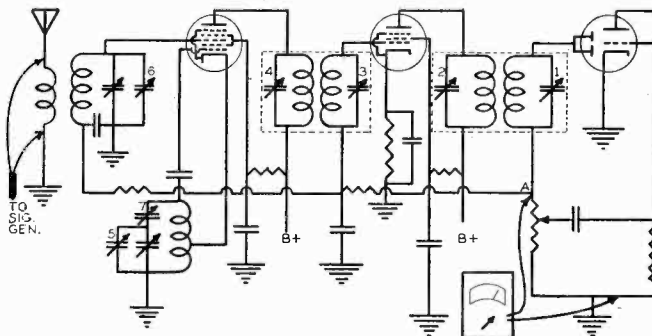

Fig. 7. Basic r.f. and i.f. sections of a superheterodyne.
The basic circuit for a superheterodyne receiver is given in Fig. 7. Let us give the basic alignment procedure, step-by-step, which would be used on this set.
3. Connect the output indicator to the receiver. We will assume, in this discussion, that we are using a volt-ohm-mil-ammeter as a d.c. voltmeter to indicate a.v.c. voltage and that it is connected between point A and ground in Fig. 7.
8. Adjust the trimmers of the i.f. transformers for maximum reading on the output indicator. These are adjustments 1, 2, 3 and 4 in Fig. 7. Repeat the adjustments to correct for any interaction between trimmers.
11. Set the signal generator to the same frequency. Then adjust the oscillator trimmer, adjustment 5 in Fig. 7, (usually on the oscillator section of the tuning gang) for maximum output indication on the meter.
12. Tune the receiver and signal generator to a frequency of about 1400 kc., and adjust the pre-selector trimmer (or trimmers), adjustment 6 in Fig. 7, for maximum output indication. This trimmer is generally on the pre-selector section of the gang tuning condenser.
13. Make the low-frequency adjustment by tuning the set and the signal generator to about 600 kc. (or some nearby frequency where no station is received) and adjusting the oscillator low frequency padder or coil "slug" for maximum output (adjustment 7 in Fig. 7). When the maximum in sensitivity is wanted, it is better to use a procedure known as "rocking." To make a rocking adjustment, tune the signal generator to about 600 kc. and leave it set at this frequency. Now tune the receiver to get maximum output, regardless of the dial setting. Now "rock" or adjust the tuning condenser back and forth slightly around this position (dial reading should be approximate) and adjust the padder for maximum output.